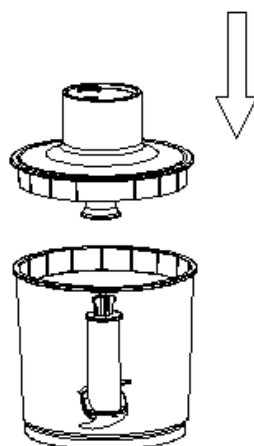

Fig:2
4. Attach the lid onto the chopper bowl, make sure the tuber on the inside wall of bowl aligns with the groove of lid, then put down the lid and turn it in clockwise direction until it locks into position. (See Fig.2) To detach the lid, turn in adverse direction.